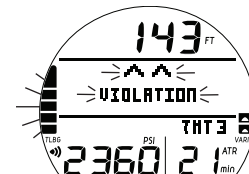

Fig. 60 - VGM MAIN
Upon activation of VGM, the Audible will sound during which the alarm LED and full TLBG* will flash. The graphic VIOLATION and (2) Up Arrows will also be displayed flashing, in place of Deco data (Fig. 60), until on the surface.